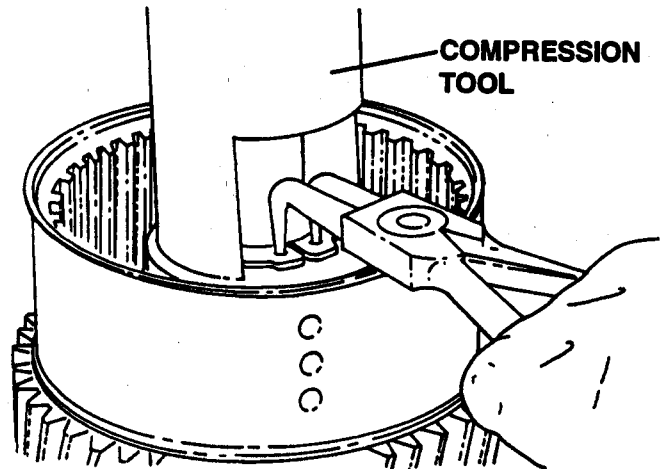

Figure 34.
4. Remove the high gear/clutch housing (51) with the needle roller bearing (53).
5. Remove one thin washer (50), one thrust bearing (49) and one thick thrust washer (48).
6. Remove circlip (46). Remove pressure (end) plate (43). Remove the clutch friction/counter plates (44 and 45). Keep them together in sets. DO NOT mix the plates with those from other clutches.
7. Remove pressure (end) plate (57). Remove disc spring assembly (42). The disc spring is assembled within a liner to protect the hub support spline.
8. Position clutch assembly in press to compress piston spring (39) and remove circlip (41). See Figure 34. Lift off spring retaining plate (40, Figure 2).